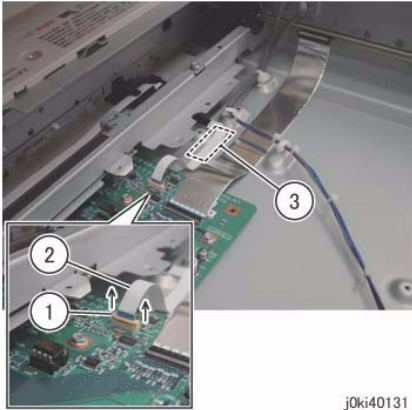

Figure 2 Disconnect the LED Lamp Wire Harness
6. Disconnect the LED Lamp Wire Harness. (Figure 2)